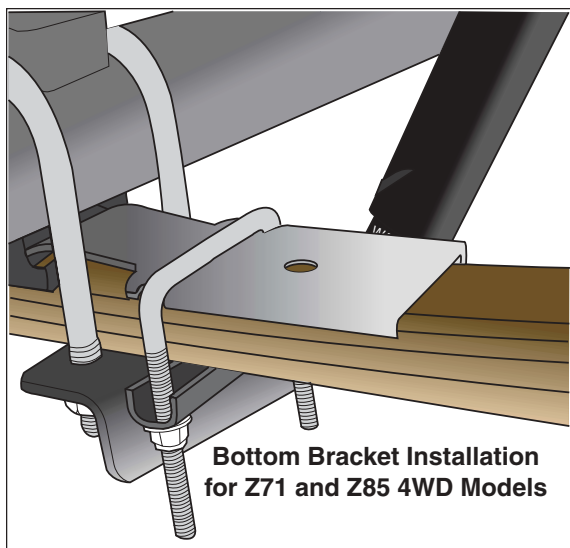

Figure 4a
2. Set the tab of the bracket over the spring perch in order to lock the assembly in place (Figure 4a, 4b).